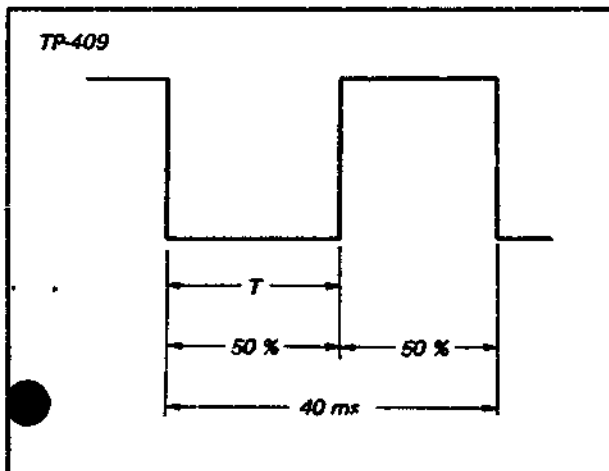

Fig. 6-3. 25-Hz pulse adjustment
3. Adjust R441 so that the interval "T" in Fig. 6-3 is 20 ± 0.5 msec, i.e., a duty cycle of 50%.